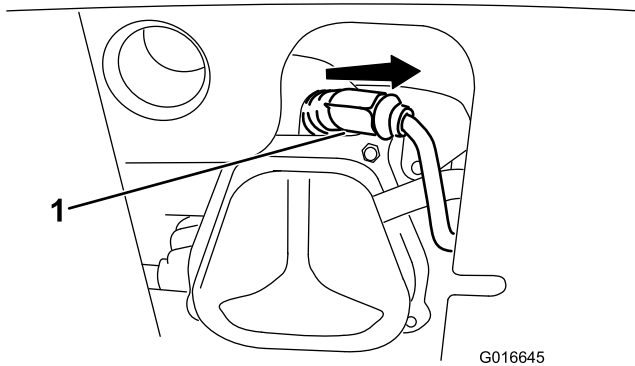

Figure 44
- Remove the boot (Figure 44).